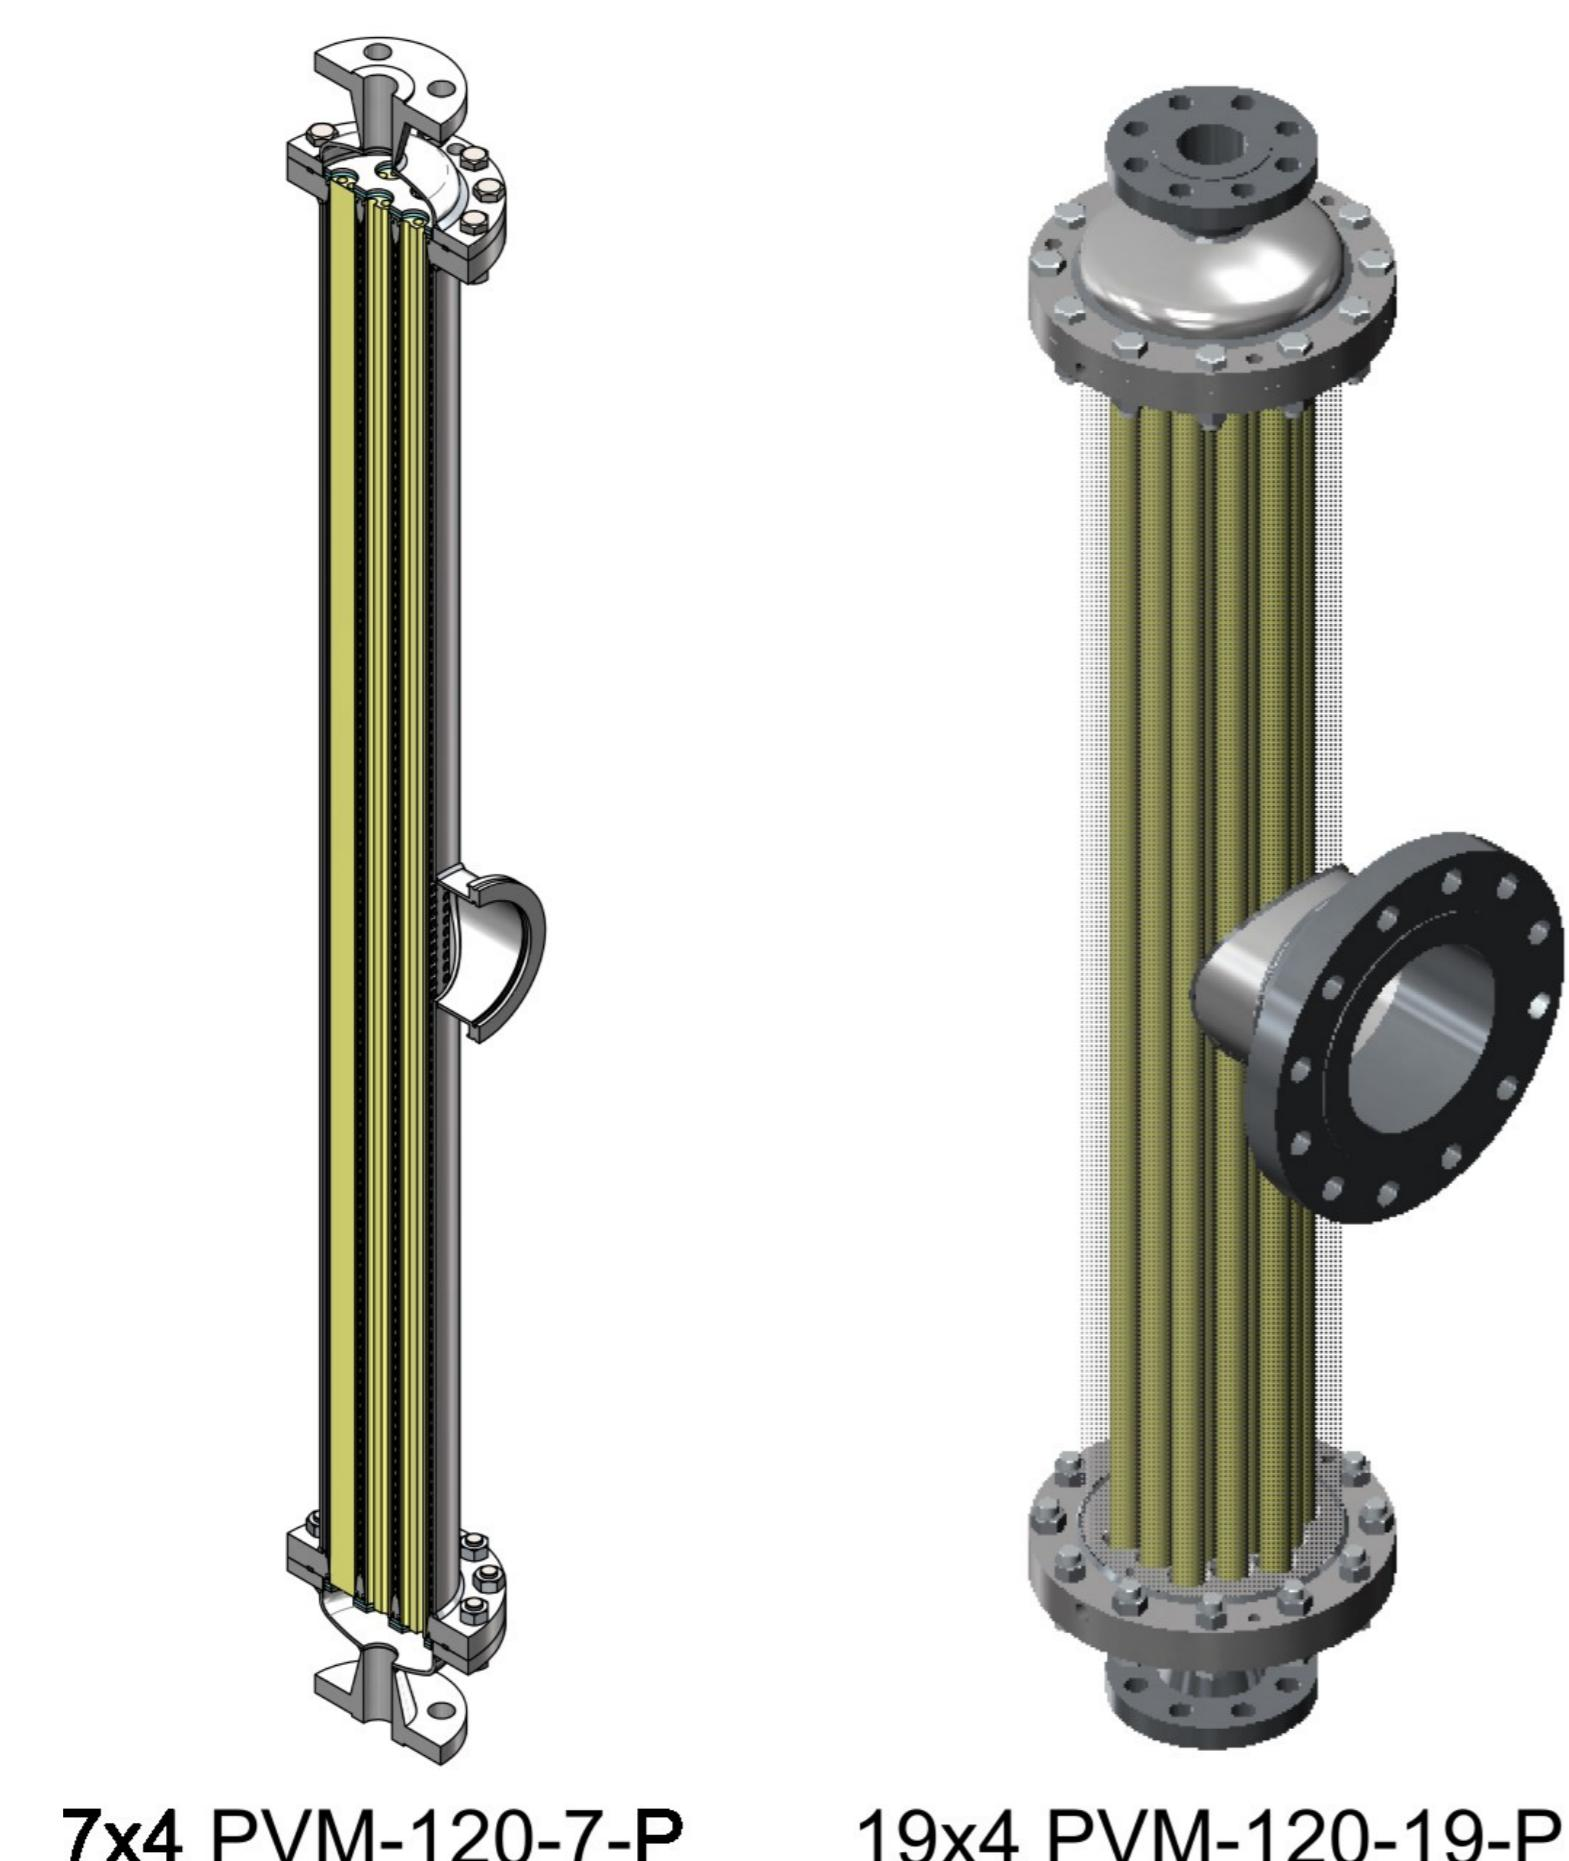

Figure 1. Pervaporation modules
- Modules: 7 / 19 membrane bundles ($0.74 / 2.0 \text{ m}^2$), Fig. 1